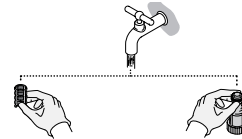

Fig. 30
3. Rinse the parts with clear water (Fig. 30).